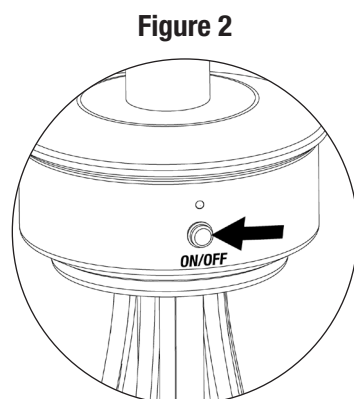

Figure 2
2. Push the power button. (Figure 2)
1. Push the power button. (Figure 2)